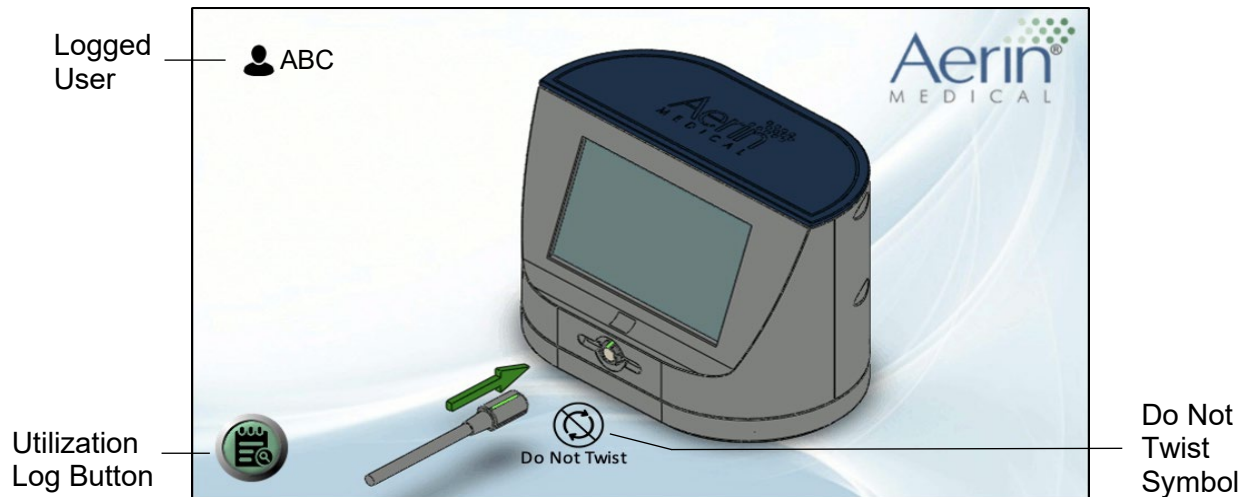

Figure 3.4 Standby Page
- Back Button – Goes to Standby Page (see Figure 3.4) if no Stylus is connected.
The Console will enter into Standby mode if the system has no faults and no Stylus connected. The “Standby – Insert Stylus” image can be seen at the screen (Fig. 3.4). The start button & Foot Switch are disabled.